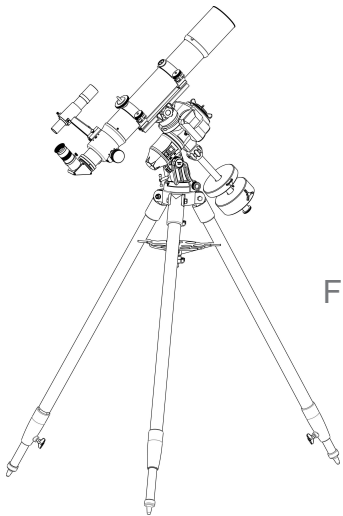
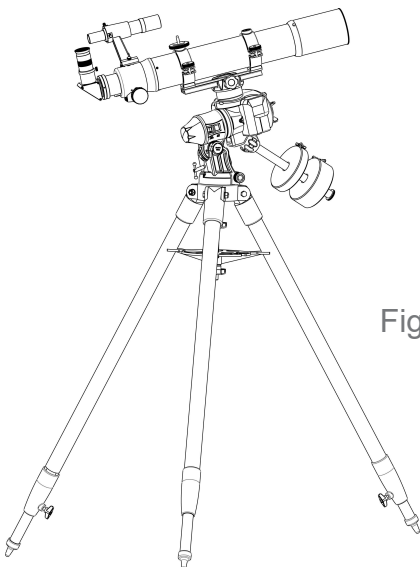

Fig. 5
Fig.7
## 2.1 Counterweight Bar Position (Fig.5 to Fig.7)
1. The EQ-AL55i Pro mount offers two mounting positions for the counterweight bar. The classic position is suited for higher latitudes (Fig.5).
2. The position of the counterweight bar is more suited for an observation site in lower latitudes (Fig.7).